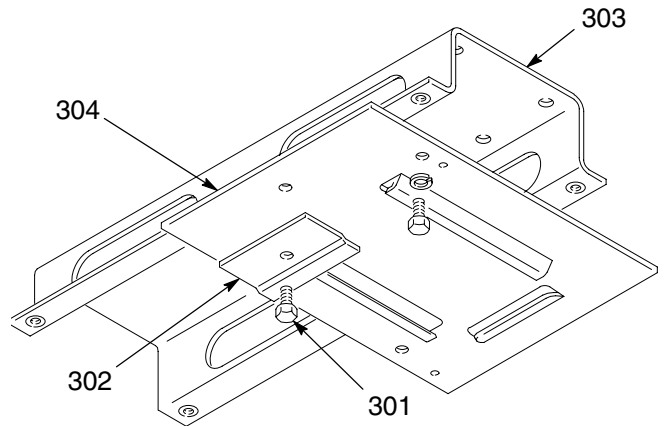

Fig. 9
3. Slide the hose reel onto the base plate (304). Install the hold-down plate (302) and capscrew (301). Tighten the screw firmly. See Fig. 9.